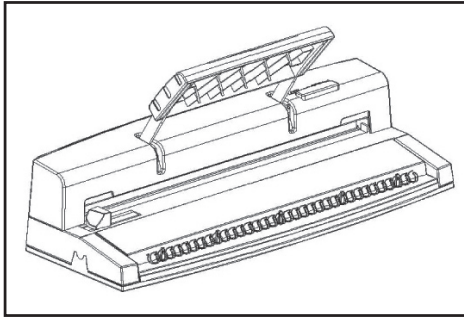

Figure 5
- Place the wire element (6 mm) into the Wire Holder as shown in figure 5. Be sure its firmly secured with the small loops facing toward you.